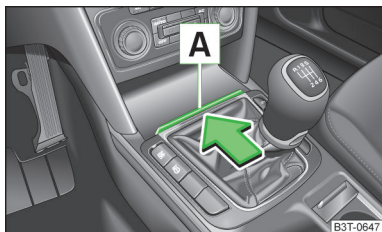

Fig. 81
► Press on the edge of the roof **A** » Fig. 81 in the direction of the arrow.
- Open the ashtray » Fig. 81 on page 88.